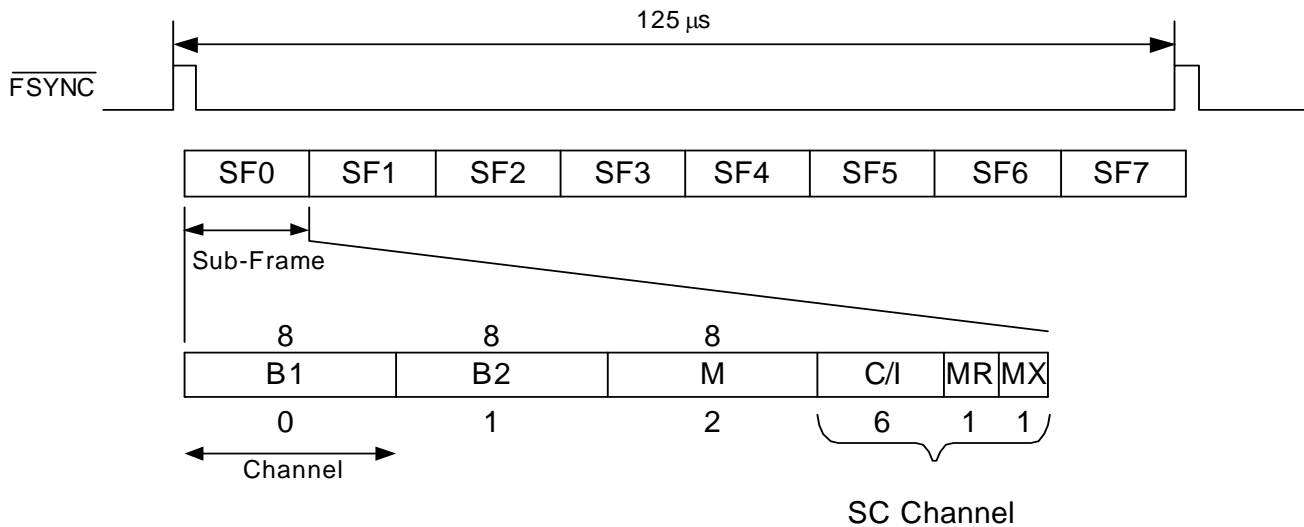

Figure 43. Time-Multiplexed GCI Highway Frame Structure
(SC) for communicating status of the device and for initiating commands. Within the SC channel are six Command/Indicate (C/I) bits and two handshaking bits (MR and MX). The C/I bits are used for status and command communication, whereas the handshaking bits Monitor Receive (MR) and Monitor Transmit (MX) are used for data exchanges in the Monitor channel. Figure 43 illustrates the contents of a GCI highway frame.
Figure 43 illustrates the Monitor channel communication protocol. For successful communication with the Si3050, the transmitter should anticipate the falling edge of the receiver's acknowledgement. This also maximizes communication speed. Because of the handshaking protocol required for successful communication, the data transfer rate using the Monitor channel is less than 8 kbytes/second.